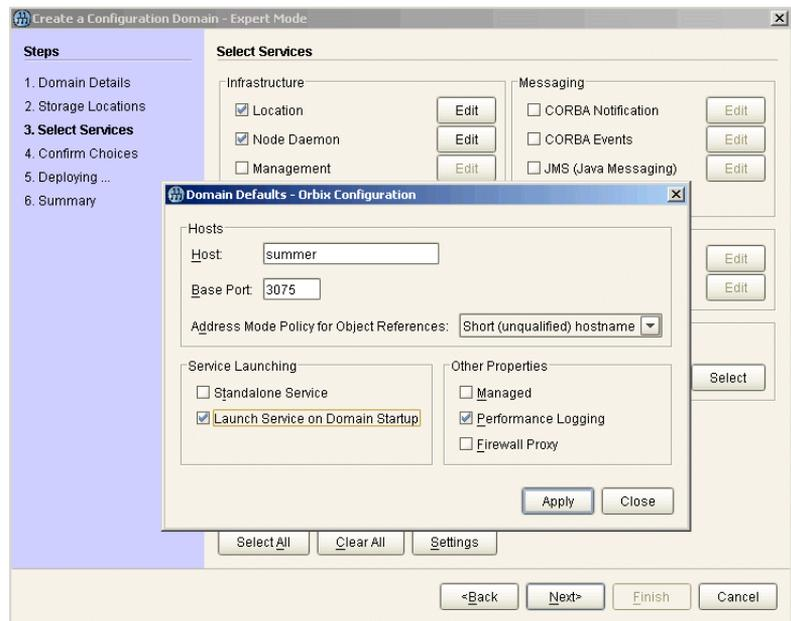

Figure 8: *Selecting Performance Logging*
1. In the **Select Services** screen, click **Settings** to launch the **Domain Defaults** dialog, shown in Figure 8.
2. Select the **Performance Logging** option in the **Other Properties** box, shown in Figure 8. This ensures that, by default, all your selected services are configured for monitoring.